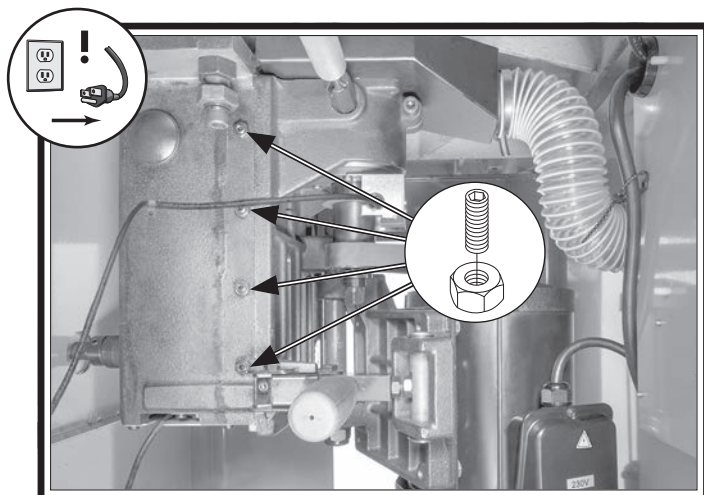

Figure 97. Location jam nuts on gib set screws.
5. Loosen (4) jam nuts on gib set screws (see **Figure 97**).